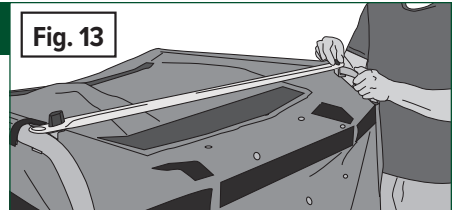

Fig. 13
2. **(Fig. 13)** Remove the Top Brace and place inside the Collector Bag and lift the lower flap into the inside of the bag, over the top brace.